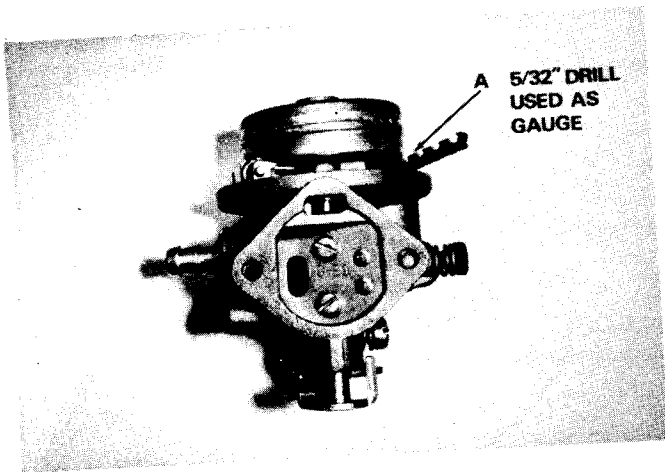

Figure 98. Float Adjustment.
- b. Hold the carburetor in an inverted position and check the float setting. (See Figure 98. — reference A.)